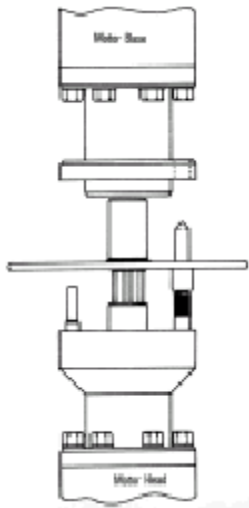

Figure 4-38: Spline alignment tool in place for tandem motor connections
12. Place the alignment tool on the motor coupling and turn the motor shaft until the sleeve slides down over the guide pin on the motor head. (There is an alignment groove machined into the motor head and base indicating the location of the guide pin.) Figure 4-38 shows the alignment tool in place.